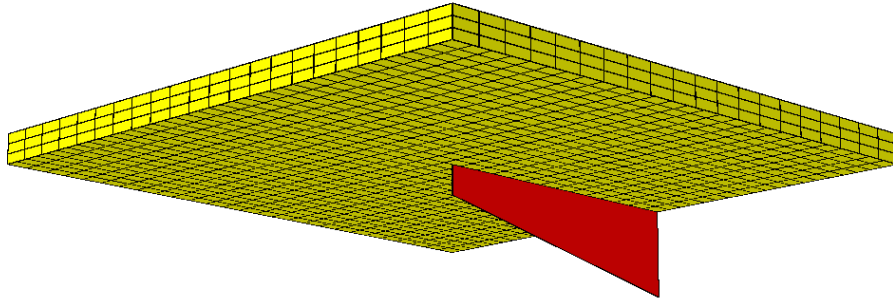

Figure 46: A render of the square box with its new skeg.
- ☞ In the newly open PlotShip pane, the square box vessel and it's newly created skeg is rendered and should resemble that shown in Figure 46